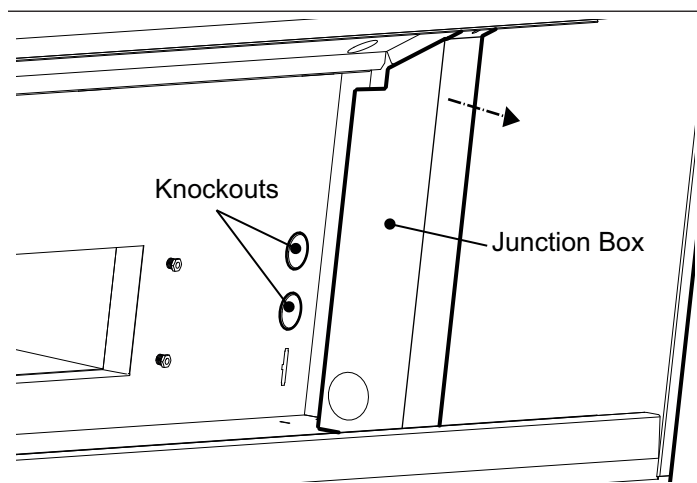

Figure 7: Junction Box Location
1. Remove junction box channel covering the wires (see *Figure 7 on page 10*).
2. Remove circular knockouts (*Figure 7 on page 10*).
- Spring type wire nuts, rated for a minimum of two (2) #18 gauge wires and maximum of four (4) #14 gauge wires, UL & CSA rated to 600V and 302°F (150°C).
- b) Remove the junction box cover (refer to *Figure 7* on page 10).